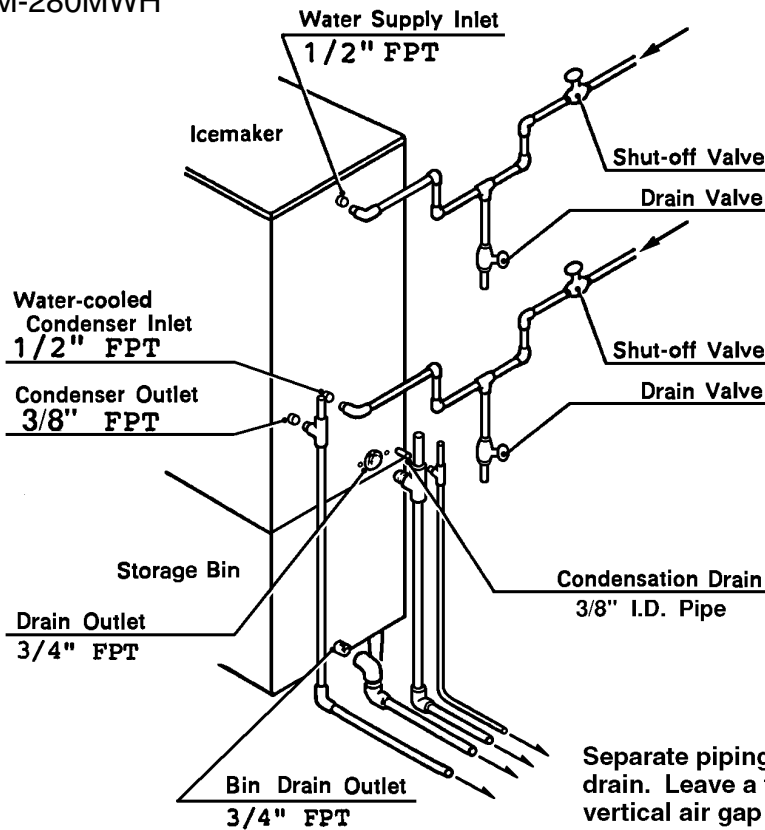

Fig. 4
6. WATER SUPPLY AND DRAIN CONNECTIONS - See Fig. 4
- 1) Open the Water Supply Line Shut-off Valve. See Fig. 4.
- 6) Close the Water-cooled Condenser Water Supply Line Shut-off Valve. See Fig. 4.
- 7) Open the Drain Valve for the water-cooled condenser water supply line. See Fig. 4.
- 4) Close the Potable Water Supply Line Shut-off Valve and open the Potable Water Supply Line Drain Valve. See Fig. 4.